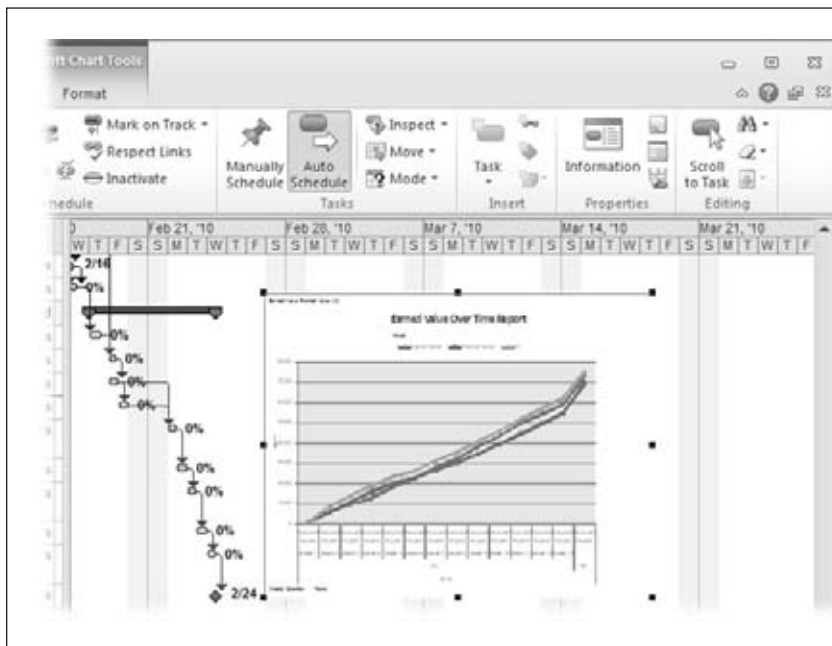

Figure 20-4:
3. Press Ctrl+V. Project pastes the graphic at the selected location, as shown in Figure 20-4.